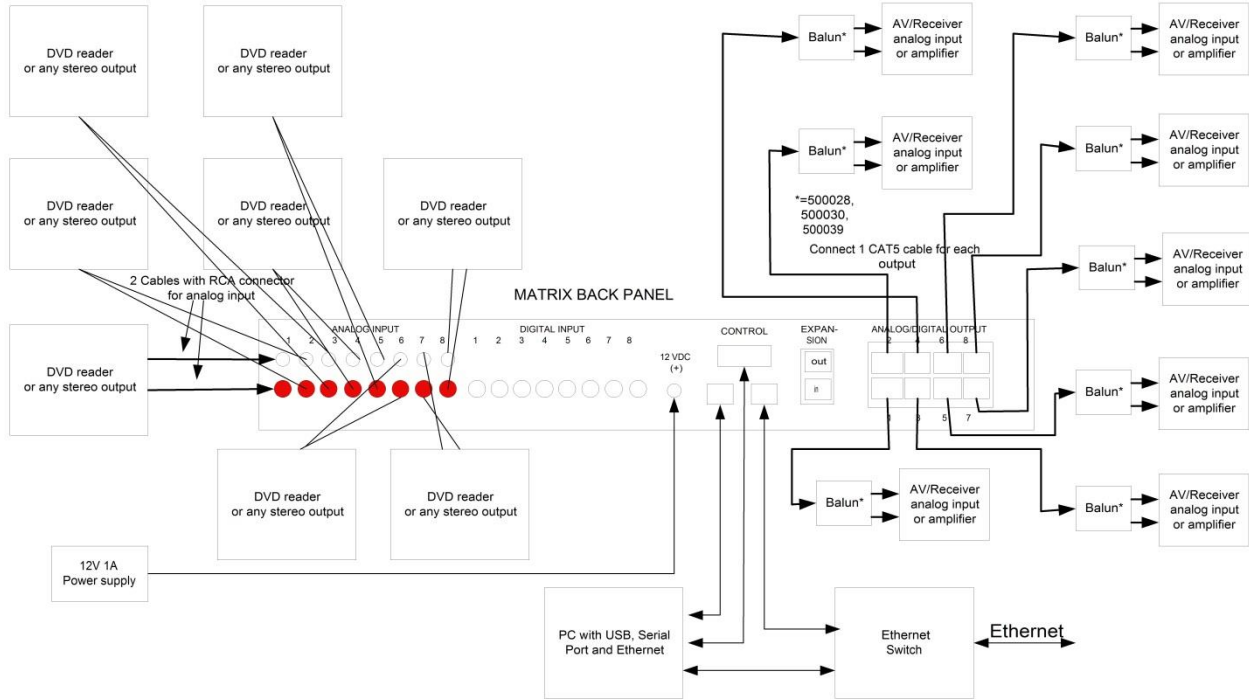

Figure 6: Typical Configuration: Analog Signal (Stereo)
6. Figures 6 and 7 show some typical configurations.